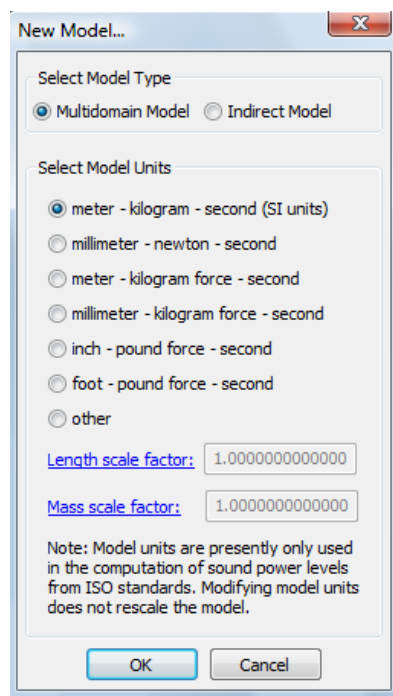

Figure 9.4: New Model Selection Window.
- In the main menu select: **File** → **New Model**. The window in Figure 9.4 will then appear.